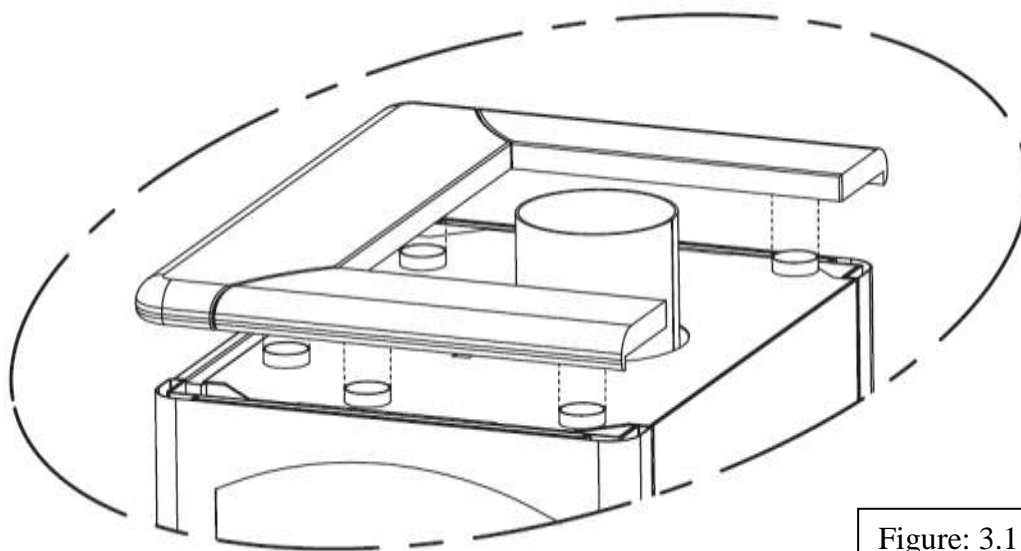

Figure: 3.11.
12. Place the ceramics on the upper circle as shown in Figure 3.11.